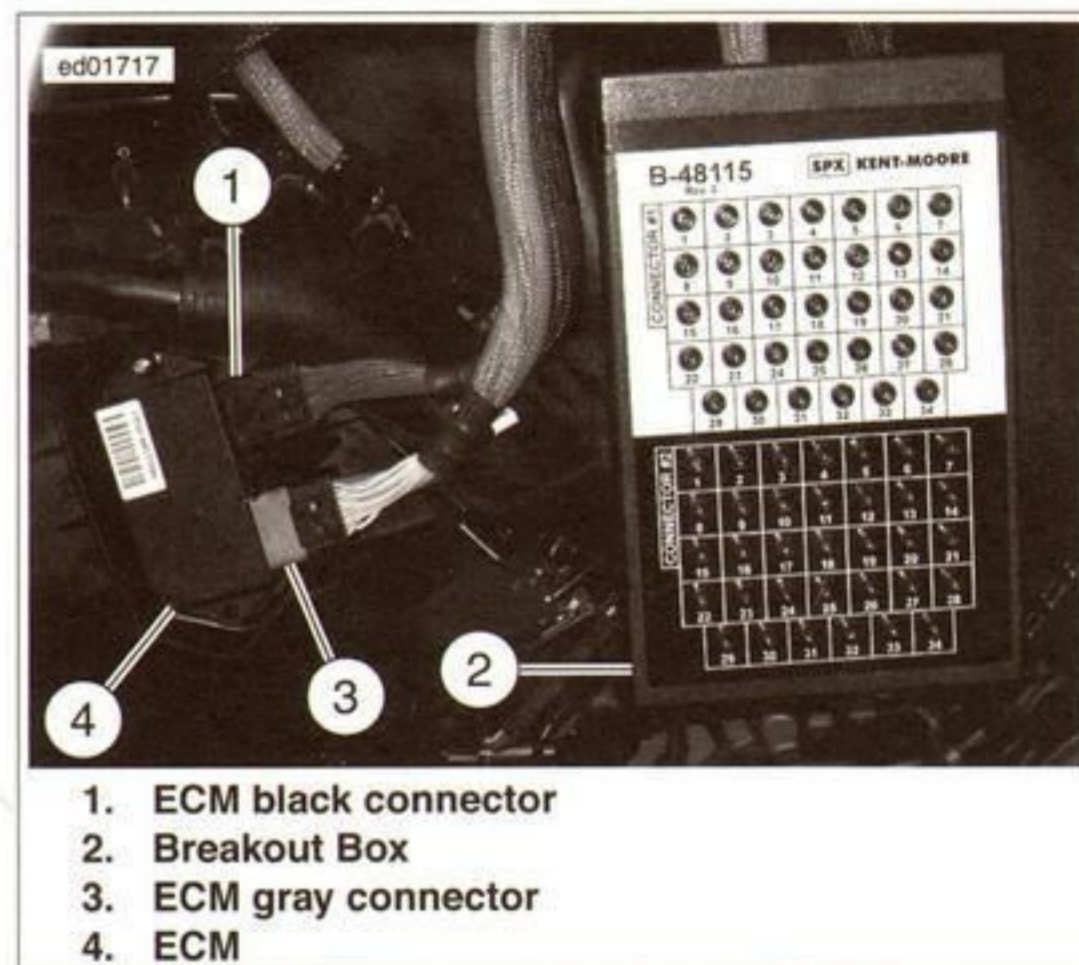

Figure 1-18. ECM and Breakout Box with Connections
2. See Figure 1-18. Attach the Breakout Box to the ECM connectors as follows: